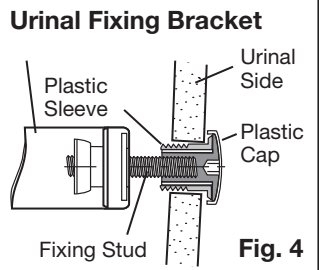

Fig. 4
- 9- Secure the urinal onto the concealed bracket using plastic fixing sleeves into holes in the urinal, screw the two threaded studs into the bracket, as detailed in Fig.4. Tighten fixing heads with a 7/32" Allen key (not supplied) to mount urinal to wall while ensuring level.
Snap on plastic cap, as detailed in Fig. 4.